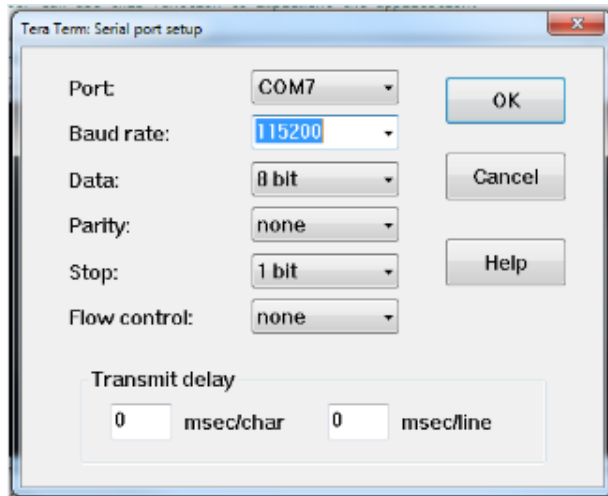

Figure 12. Tera Term Serial Port Setup
3. If using Tera Term, navigate to Setup --> Serial Port... where the menu in Figure 12 pops up.